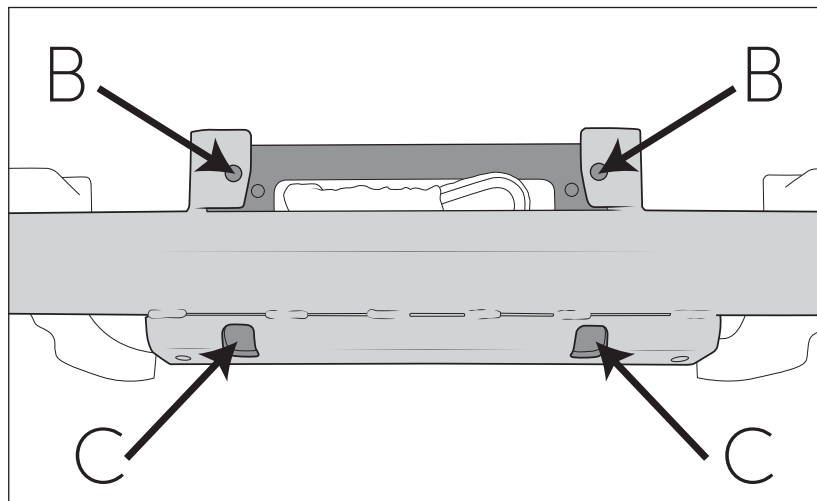

Figure 17
- B. Start 2 AEV supplied M10 x 4" bolts at the top of the winch (fig. 17).
- C. Start 2 WARN supplied M10 bolts at the bottom of the winch (fig. 17).